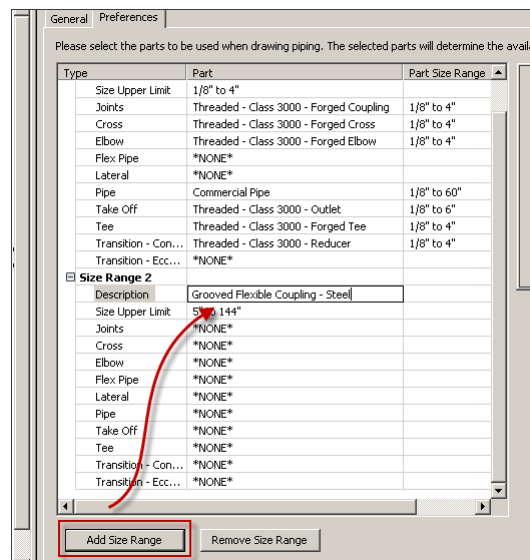

Figure 6.18
14. For the Description, type **Grooved Flexible Coupling – Steel** (see Figure 6.18).